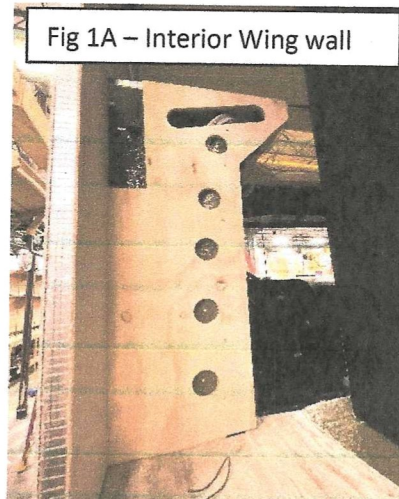

Fig 1A – Interior Wing wall
- 1) Begin by partially removing the décor wing to confirm whether interior wing was used ILO wings, interior backer (Figure 2A). Units with just the interior wing backer (Figure 2A) need to have the modified interior wing wall (Figure 1A) installed. Please proceed to the Instructions.